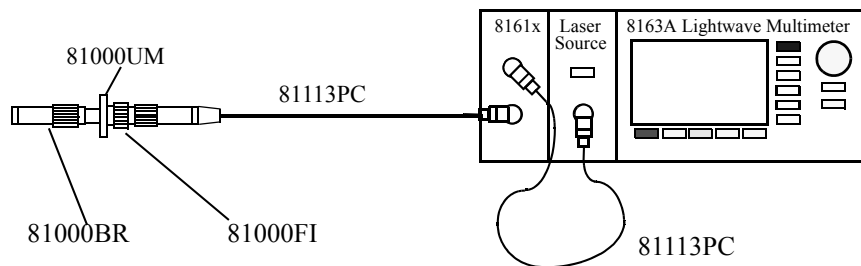

Figure 11 Reflectance Calibration - External Source
- 1 Making sure all the connectors are clean, set up the instrument as shown in Figure 11 if you are using an External Source,